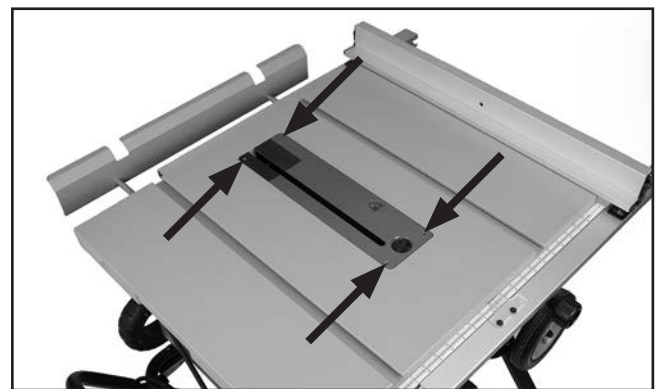

Figure 90. Location of table/dado insert holes with adjustment screws.
The table/dado insert must sit perfectly flush with the table to provide a smooth, continuous surface for the workpiece to slide over. The insert is held in place by a magnet and sits on top of four adjustment screws (see **Figure 90**).
3. Insert hex wrench through holes shown in **Figure 90** and either loosen screws to raise insert, or tighten screws to lower it. Repeat **Steps 2–3** until insert is perfectly flush with surface of table.